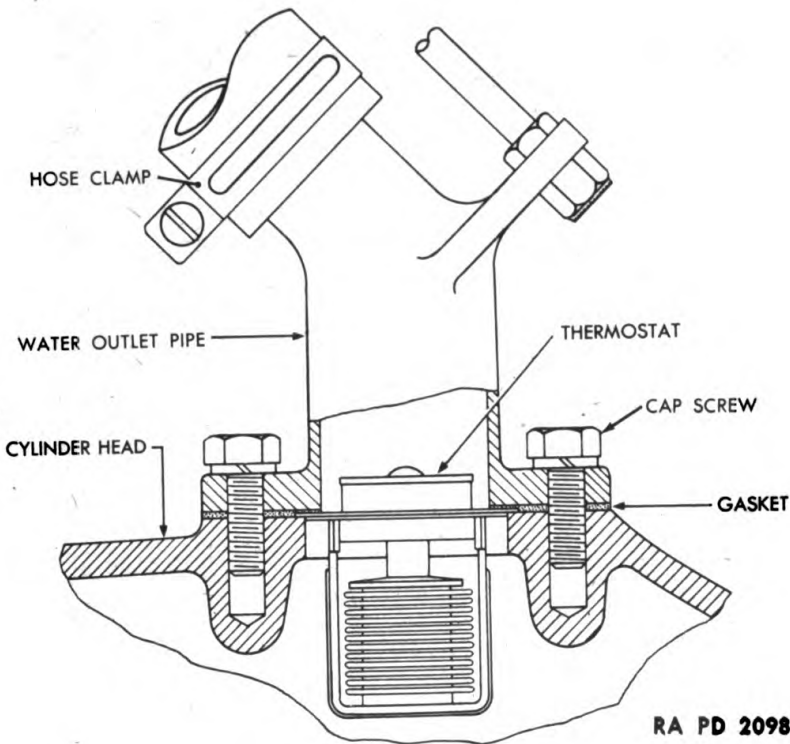

Figure 13 – Thermostat – Sectionalized View
b. **Functioning.** The water pump circulates cooled water from the bottom of the radiator through the channels in the engine water jacket and cylinder head. The heated water is forced out of the engine through the water outlet pipe, mounted on the engine cylinder head, and into the upper radiator tank. The water continues to flow down the radiator tubes where it is cooled and redrawn into the water pump to complete the water circulation cycle. The action of the fan causes air to circulate about the engine and forces air through the radiator, cooling the engine and the water circulating through the radiator. A thermostat, extending into the engine cylinder head, is mounted on top of the engine beneath the water outlet pipe (fig. 13). Its function is to prevent water circulation through the radiator until the engine has reached a normal operating temperature (160 to 180 deg F). A bypass pipe from the water pump to the engine block permits water circulation through the pump while the thermostat shuts off the water circulation through the radiator.
41. THERMOSTAT (fig. 13).
- (1) Place thermostat in cylinder head so that bellows enter head (fig. 13).
- (2) Using new gasket between water outlet pipe and cylinder head, connect outlet pipe to head.
- (3) Attach upper radiator hose to water outlet pipe and replace radiator tie rod.
- (4) Refill radiator.